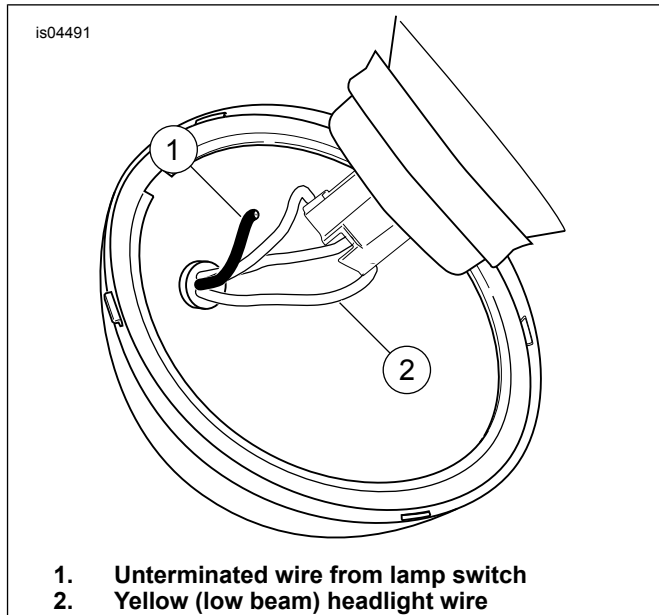
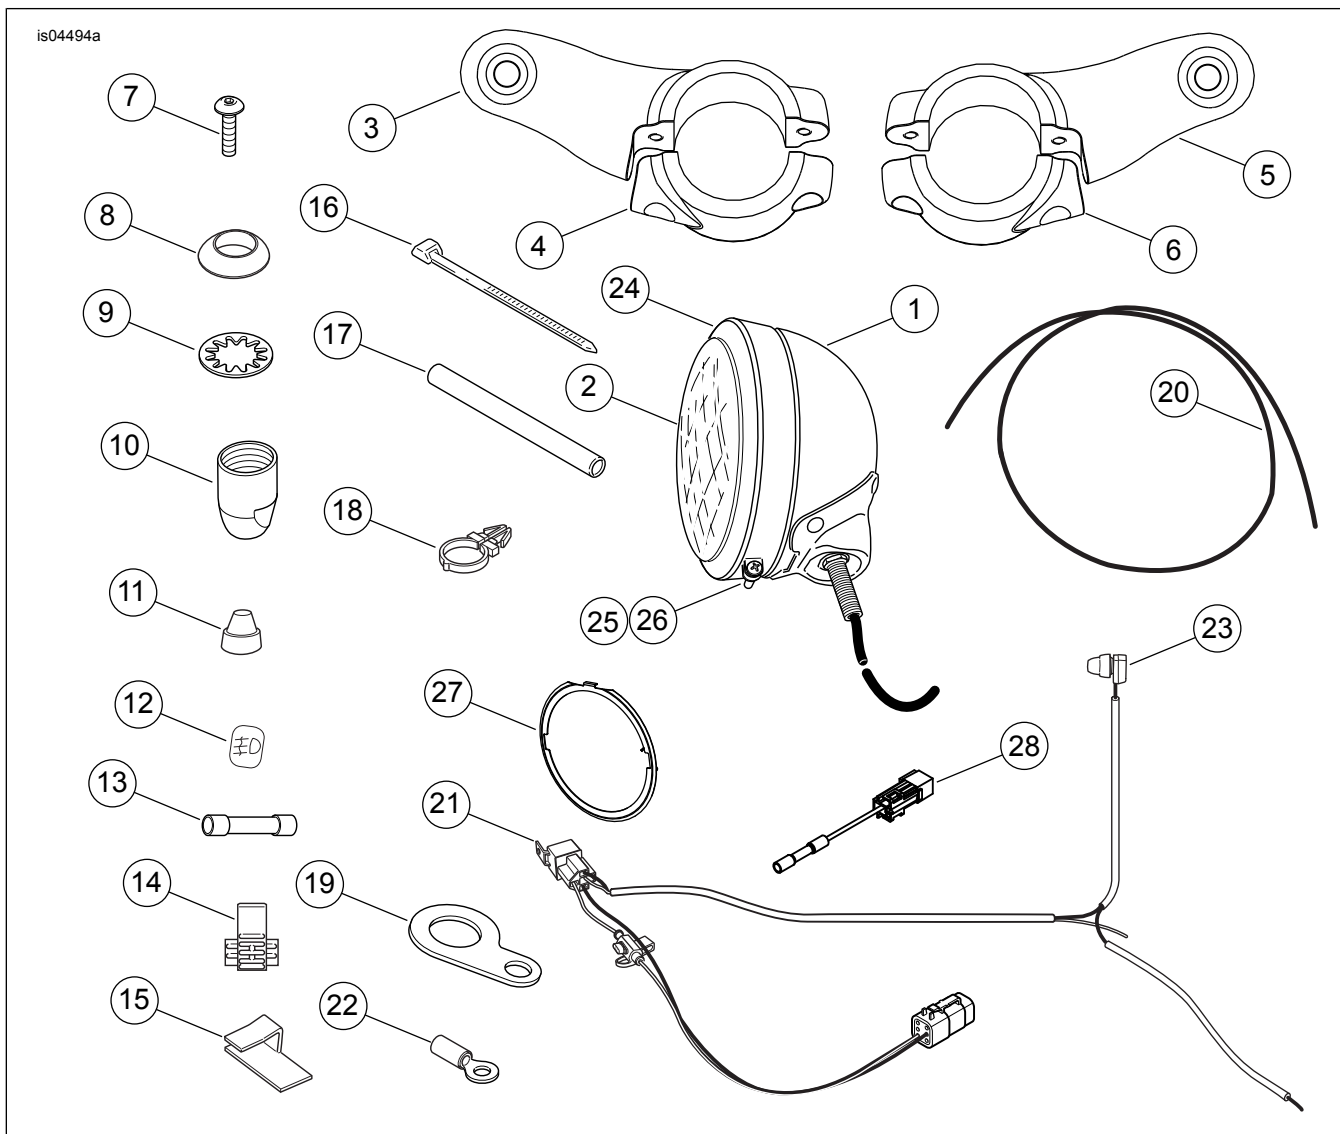

Figure 9. Splice Underminated Wire from Switch to Headlight
Figure 11. Service Parts: Chrome Auxiliary Lamp Kit
See Figure 11 and Table 1.
- See Figure 11. Locate the outer trim ring (24), inner nesting ring (27), screw (25), and nut (26).
- 2012 and later Dyna models:** Connect the 6-place Deutsch connector to the 6-place diagnostics/P&A connector on the vehicle harness. **All 2006-2011 Dyna models:** Cut the 6-place connector from the harness. Splice the B+ jumper harness (item 28, Figure 11) to the white power lead and connect the jumper to the B+ connector on the harness. See the SEALED SPLICE CONNECTORS section of the service manual.
13. **All 2006-2011 Dyna models:** Install a ring terminal from the kit to the black ground lead of the harness. Connect the black ground wire (2) with the ring terminal to the ground stud under the seat, or at any good electrical ground point. Secure the kit harness to the adjacent harnesses with cable straps (Item 16, Figure 11).
15. See Figure 11. Remove the boot from the lamp switch and install the switch into the mounting bracket (19). Replace the boot on the switch.
If the boot becomes worn or damaged, or is lost, replace the boot to prevent moisture from entering the switch (item 11, Figure 11).
17. See Figure 11. Secure the lamp switch leg of the harness to the handlebar using the wire harness retainers (Item 18) as needed. Snap the retainers into the holes in the handlebar.
19. See Figure 9. Route the unterminated wire (1) from the switch through the grommet into the headlight housing. Splice it to the yellow (low beam) wire (2) using the Scotchlok® electrical connector (Item 14, Figure 11) from the kit.
27. Secure the wires to the lower fork steering bracket using the adhesive-backed clips (Item 15, Figure 11) from the kit.